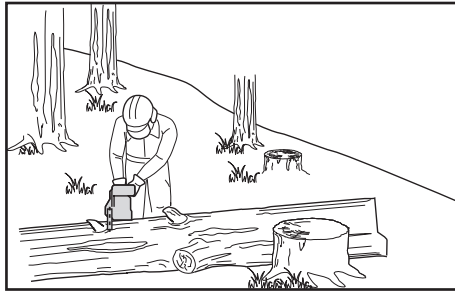

Fig. 32
- When bucking on a slope always stand on the uphill side of the log (Fig. 32). When “cutting through”, to maintain complete control release the cutting pressure near the end of the cut without relaxing your grip on the product handles. Don't let the chain contact the ground. After completing the cut, wait for the saw chain to stop before you move the product. Always stop the motor before moving from tree to tree.